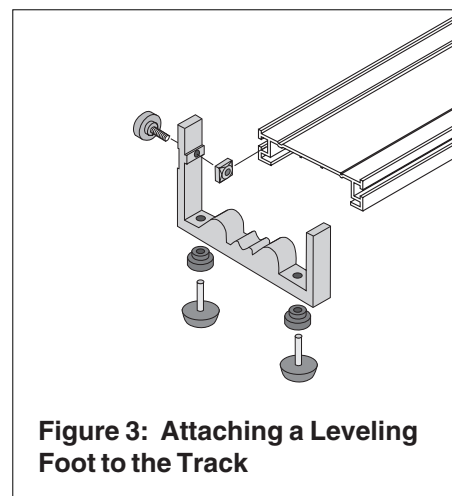

Figure 3: Attaching a Leveling Foot to the Track
3. Place the washer on the short screw, and insert the short screw through the hole in the side of the aluminum leveling foot (see Figure 3). Screw the square nut onto the end of the short screw just far enough to keep the short screw from falling out.